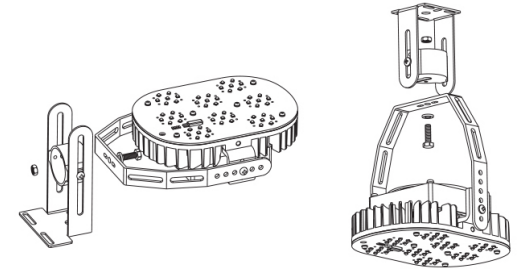

Fig. 2
- Attach Mounting Bracket to U-Bracket using M6 Bolt, Nut, and Locking Washer. Do not tighten bolt (Fig. 2).